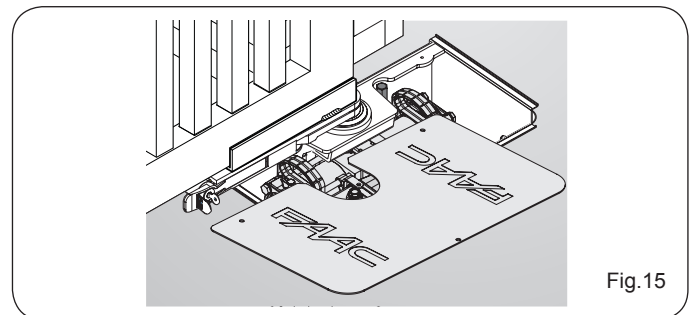

Fig.15
- 3) Secure the cover of the load bearing box with the supplied screws (Fig.15;16).